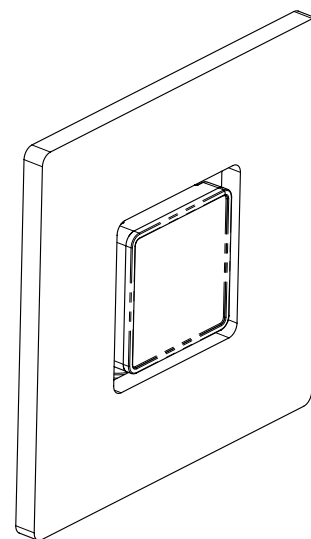

FIGURE 1
2. Mark and cut out section of drywall allowing approximately 1/2" clearance around the PQC160 enclosure. (See Figure 1)